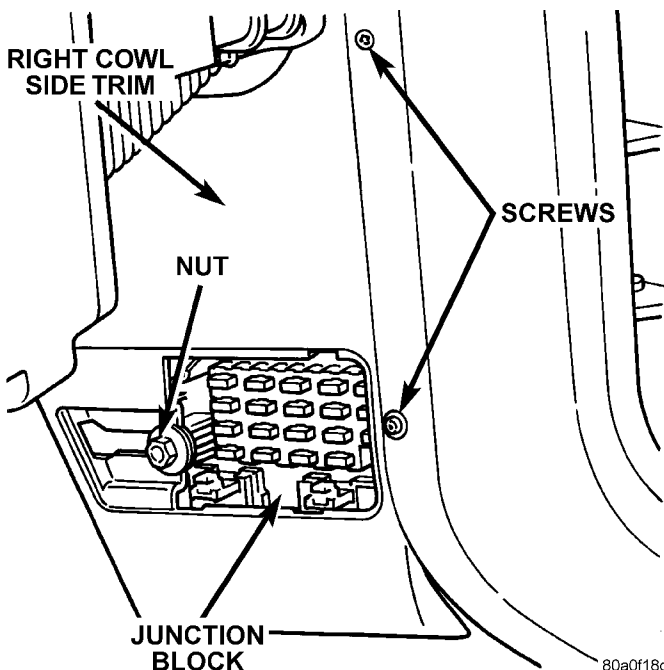

Fig. 20 Right Cowl Side Trim Panel Remove/Install
(6) Remove the fuse access panel by unsnapping it from the right cowl side trim panel.
(7) Remove the push nut that secures the right cowl side trim panel to the junction block stud (Fig. 20).